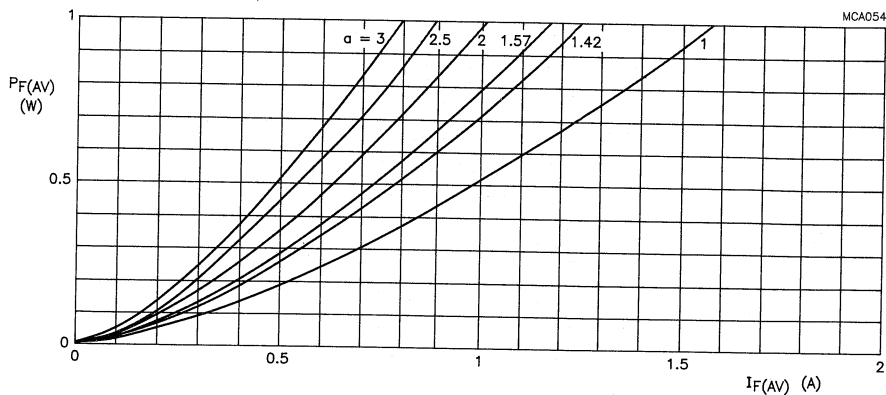

Fig.5 1N5818. Maximum values steady state forward power dissipation as a function of the average forward current;  $a = I_{F(RMS)}/I_{F(AV)}$ .
- find  $I_{F(AV)max}$  from Fig.5, for
1. Device mounted on a 1.5 mm thick epoxy-glass printed circuit board, with 3 cm2 copper surface to each terminal; lead length 10 mm; see Fig.5.